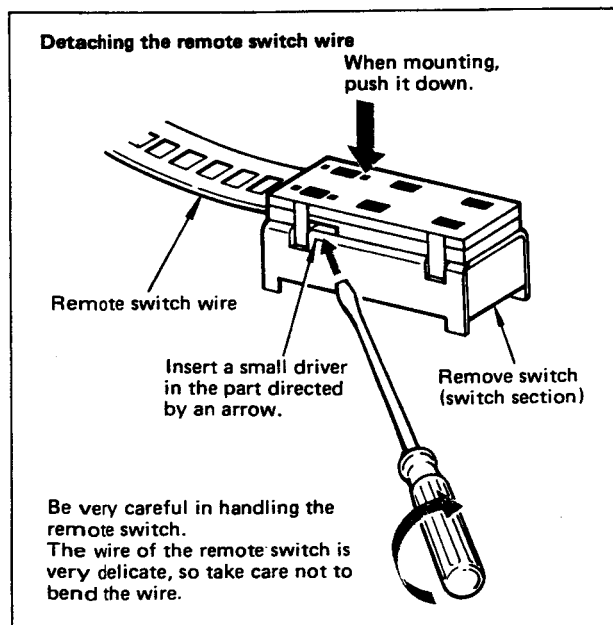

Fig. 2
- Pull out lamps ① to ⑤ in photo 5.
① ~ ⑤ : Pilot lamp
- Remove the remote switch wire as shown in Fig. 2.
- Remove screws ① to ④ in photo 4 as well as screws ⑥ to ⑨ in photo 5 and then remove the heat sink.
① ~ ④ (photo 4): Bind head tapping B tight screw
⑥ ~ ⑨ (photo 5): B.W. head tapping screw